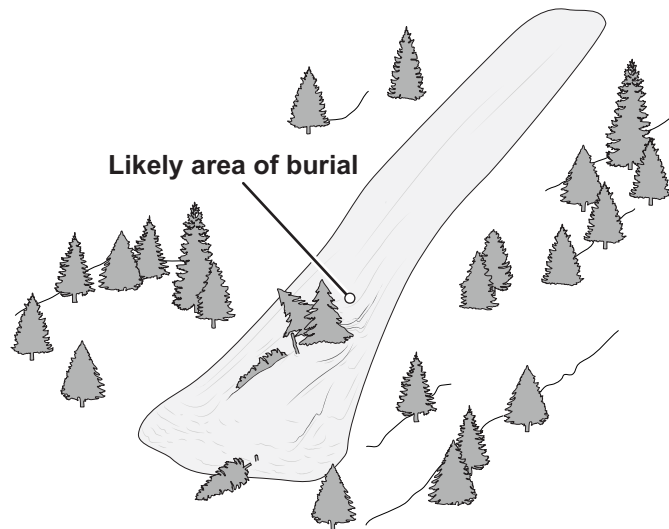

Figure 6-13. Suspected Search Areas Near Obstacles and Runout Zone.
- Determine whether all victims are accounted for. If some are still missing, mark the locations of clues found on the surface and spot probe around them. Additional likely areas of burial include areas uphill of trees or rocks, in depressions, and in the runout zone, as depicted in Figure 6-13.